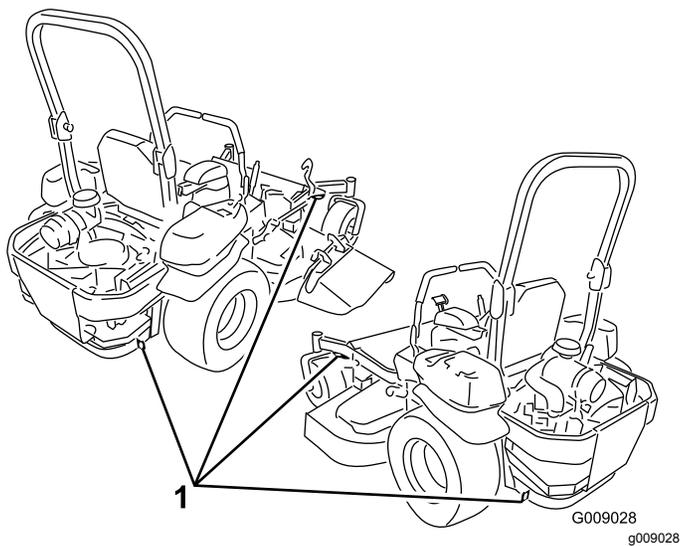

Figure 37
5. Use the metal tie-down loops on the machine to securely fasten it to the trailer or truck with straps, chains, cable, or ropes (Figure 37).